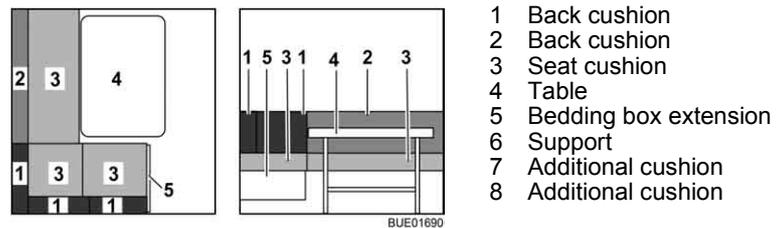

Fig. 110 Prior to conversion
- Convert the table (Fig. 110,4) to a bed foundation (see section 6.12).
- Remove the back cushions (Fig. 110,1 and 2) and lay them aside.